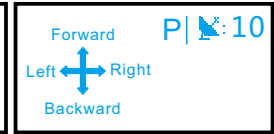

Figure 10-2: Mode 2
- Under Mode 2 (See Figure 10-2), the drone can execute commands for forward,backward,left,and right movement.